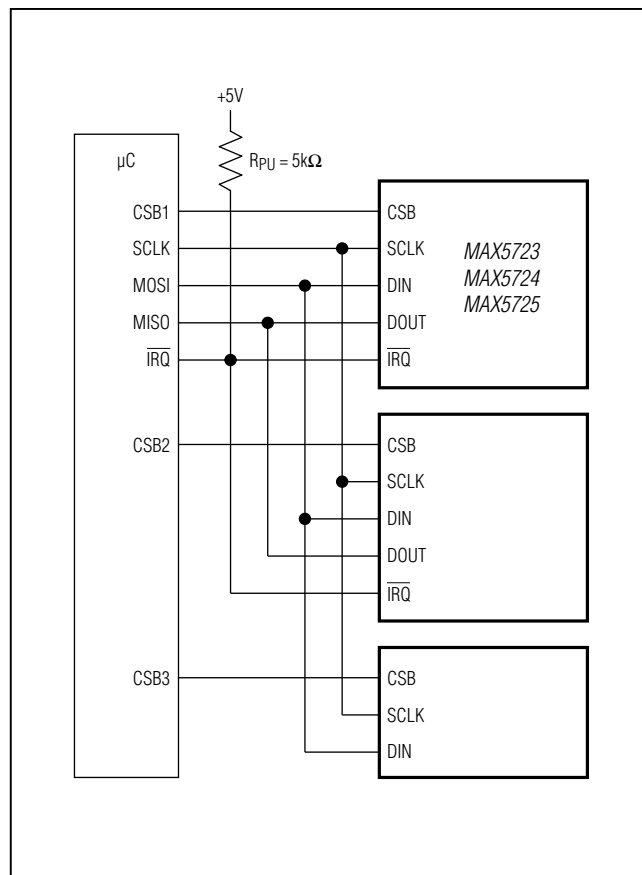

Figure 2. Typical SPI Application Circuit
Figure 1 shows the timing diagram for the complete 4-wire serial interface transmission. The DAC code settings (D) for the MAX5723/MAX5724/MAX5725 are accepted in an offset binary format (see Table 1). Otherwise, the expected data format for each command is listed in Table 2. See Figure 2 for an example of a typical SPI circuit application.